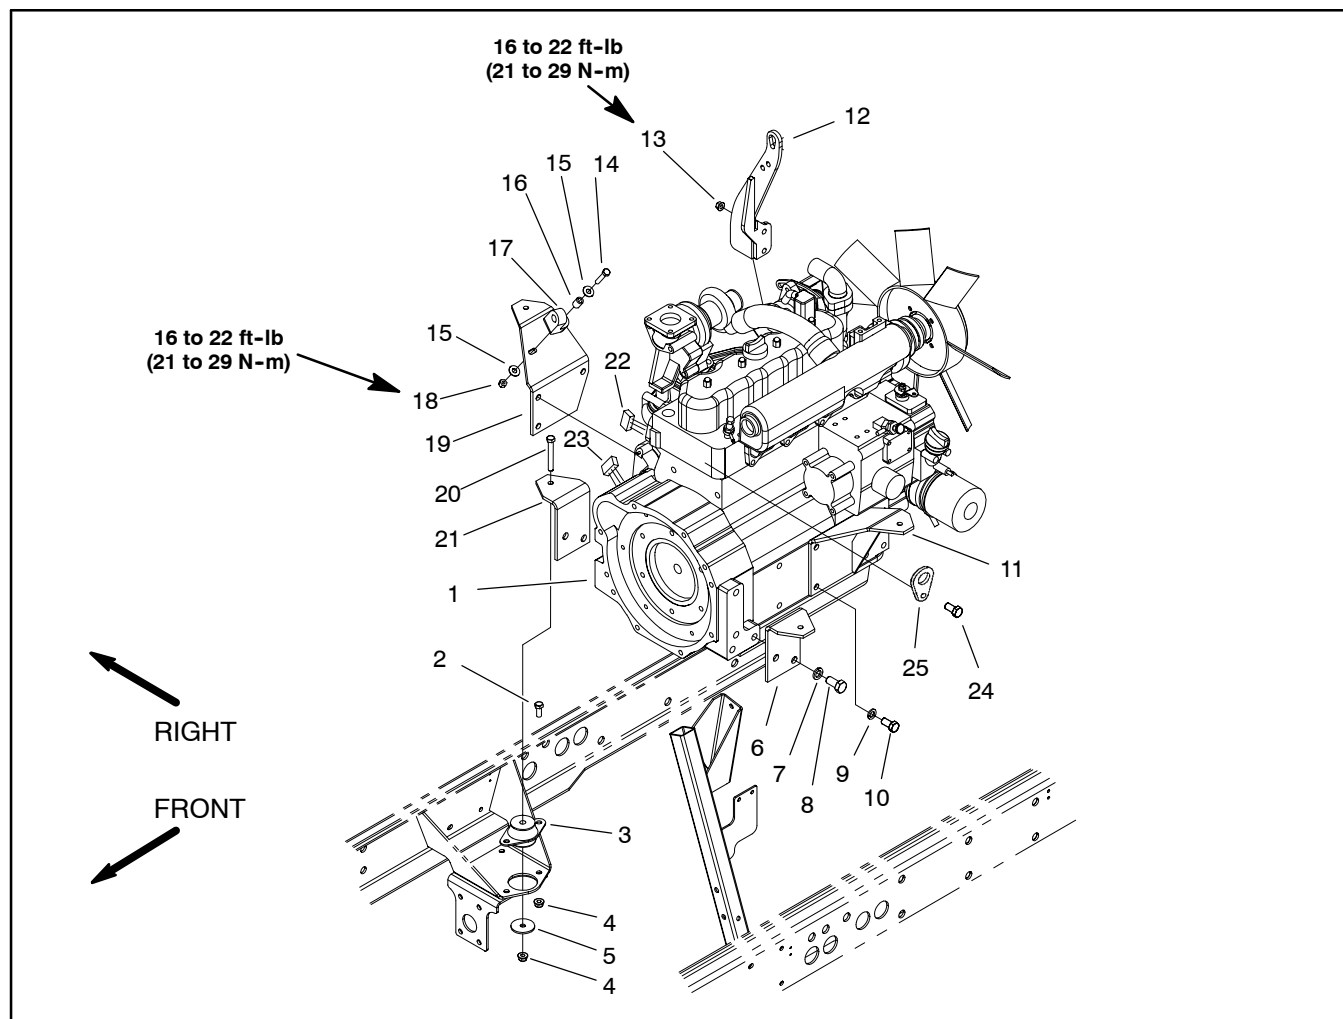
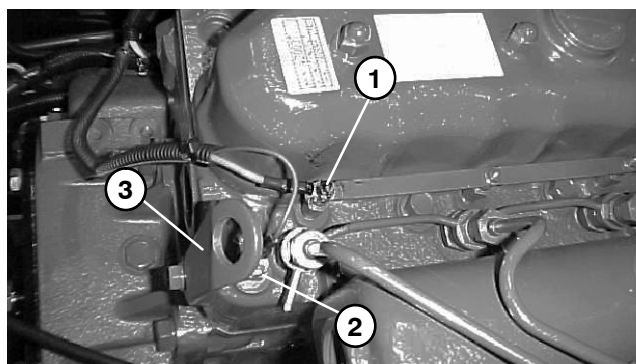

Figure 11
Figure 14
C. The high temperature shutdown switch and glow plug connection (Fig. 14).
14. Connect hoist or lift to the front (Fig. 11) and rear (Fig. 14) lift tabs on engine.
17. If necessary, remove engine mounts from the engine using Figure 11 as a guide.
1. If removed, install engine mounts to the engine using Figure 11 as a guide.
2. Connect hoist or lift to the front (Fig. 11) and rear (Fig. 14) lift tabs on engine.
- C. The high temperature shutdown switch and glow plug connection (Fig. 14).